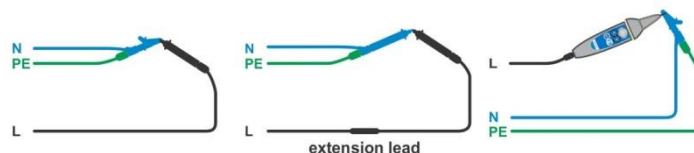

Figure 7.31: Shorted test leads
- › Connect test cable to the instrument and short all test leads together, see **Figure 7.31**.